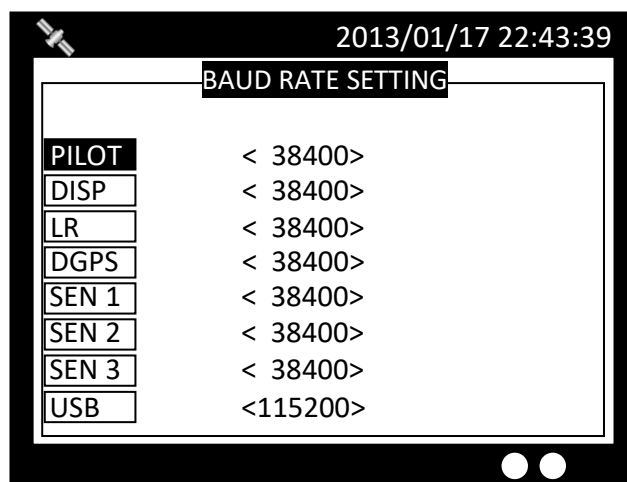

Figure 76 Baud Rate Setting
**Sensor Configuration** provides user to set baud rates for sensor ports and USB port. Turn **knob** to select a port to modify and press **knob** to change the specified port baud rate. Turn **knob** to change the desired rate of sensor ports between 4800/9600/19200/38400. USB port can be configured to any baud rate of 4800, 9600, 19200, 38400, 57600 or 115200. Default baud rates of the ports are shown in figure 76 below.